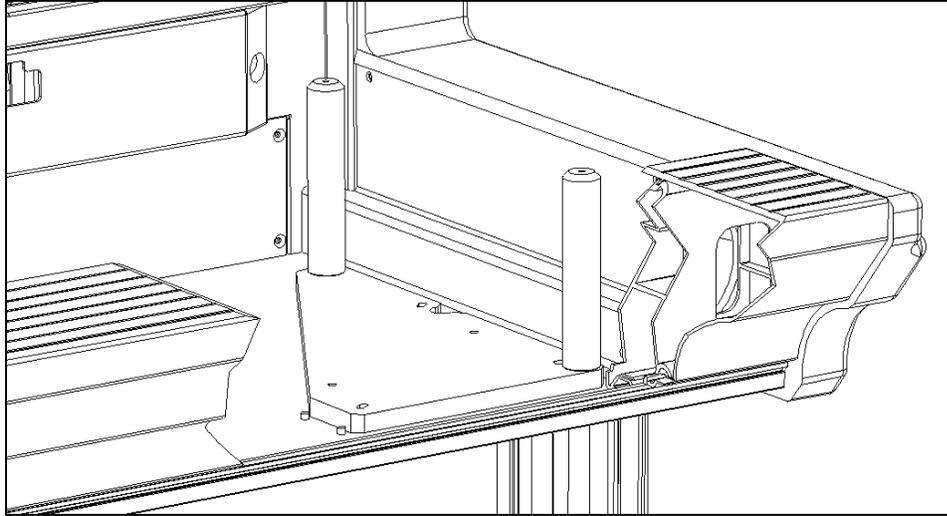

Figure 3-4 Positioning the Workspace Fixture - Right Side of DSX Workspace
- 7 Revelation will move the XYZ arm over to the right-hand end of the *DSX* to record the position of the right-back pillar. Remove the Calibration Jig and place it as shown in Figure 3-4.